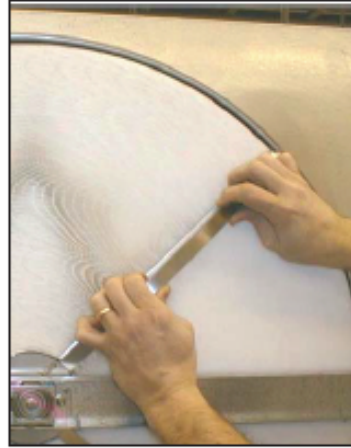

Figure 16 Remove retaining straps.
- 4 From the pulley side, unhook the flexible retaining strap on each side of the segment from the wheel rim and then remove both straps, Figure 16.
- 6 Rotate wheel and remove remaining two retaining straps, Figure 16.
- 3 Install the flexible retaining straps by inserting the ends under the hub plate and then into the slot on the rim at the end of the spoke, Figure 16.